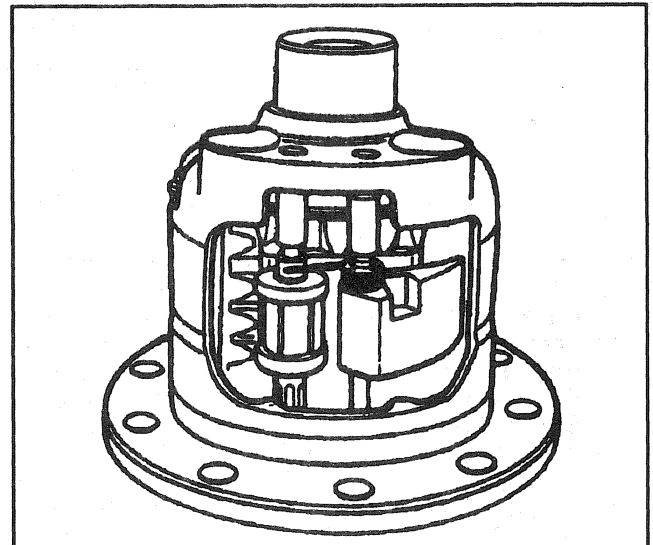

Figure 8—Governor and Latching Bracket
- The straight end of the latching bracket spring must be over and outside the governor assembly shaft (Figure 8).